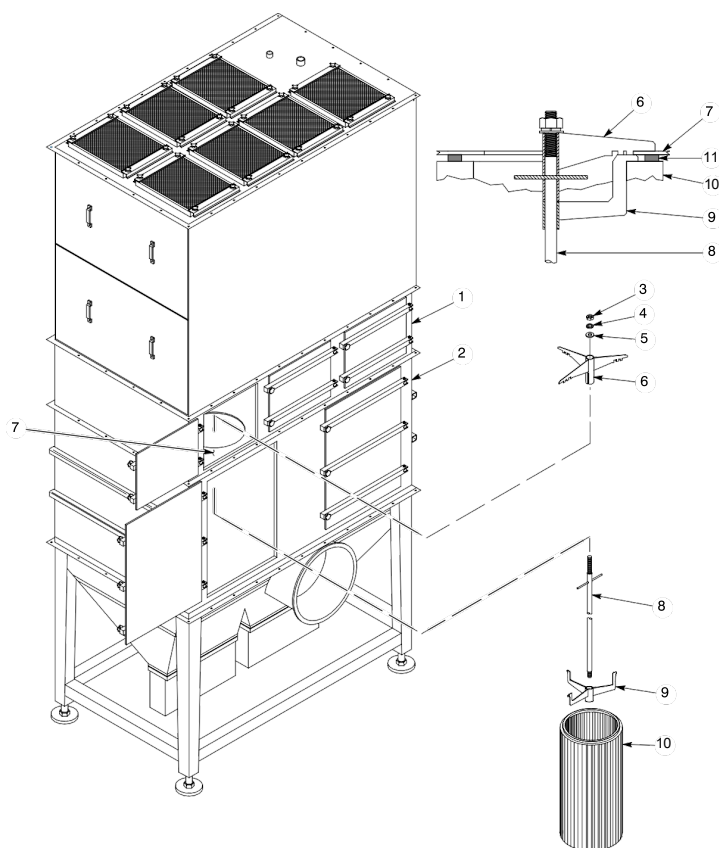

Figure 6-1 Cartridge Filter Replacement
3. See Figure 6-1. Open the access doors in the blow-down and cartridge filter sections (1, 2).
4. Pull up on the T-handle on the draw rod (8) to hold the cartridge filter (10) against the mounting plate (7).
5. Remove the nut (3), lock washer (4), flat washer (5), and mounting bracket (6) from the draw rod. Save these parts for reuse.
6. Carefully lower the cartridge filter away from the mounting plate and out of the afterfilter. The centering bracket (9) and draw rod will stay in the cartridge filter.
See Figure 6-1.